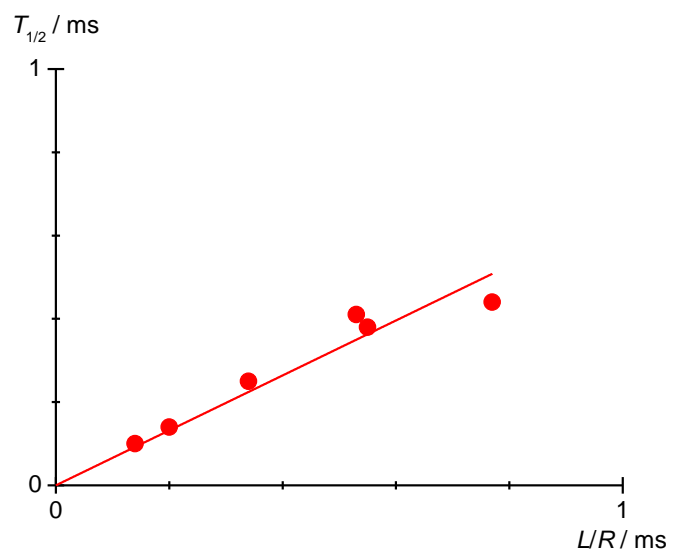

Fig. 6: Half-life $T_{1/2}$ as a function of L/R .
- Plot the half-life periods $T_{1/2}$ from Table 5 against the quotients L/R on a graph and fit a straight line through the origin (Fig. 6).
- To check equation (3) with the measured gradient m , compare it to the expected coefficient of proportionality $\ln 2$.